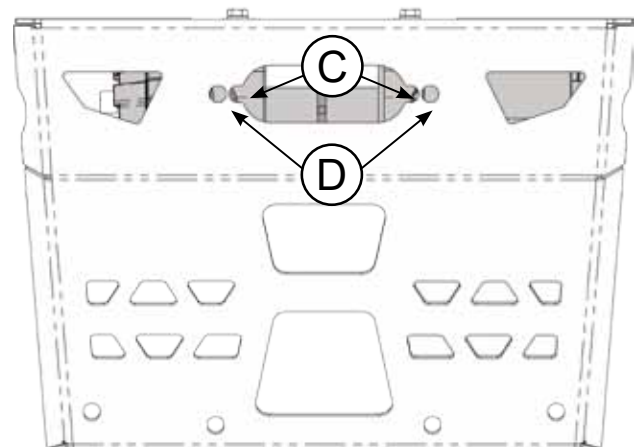

**Figure 19**
5. Align fairlead holes with holes on the fairlead bumper. See **Figure 19** for determining which fairlead holes to use.
***Note:** If the fairlead supplied with the winch does not match bolt pattern shown in **Figure 19**, one will need to be purchased that does.*